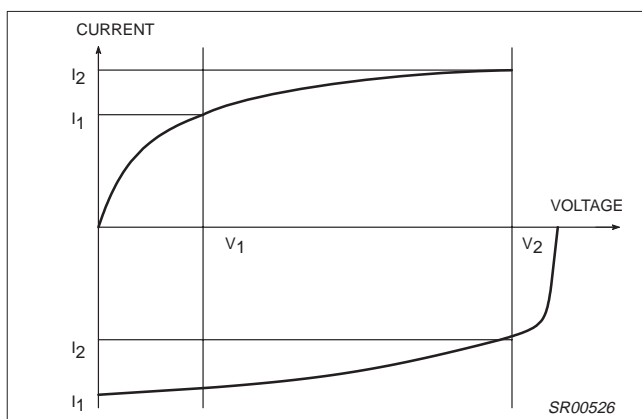

Figure 3. Relative Output Current Variation
- The relative output current variation is defined thus: $\frac{\Delta I_{OUT}}{I_{OUT}} = 2 \cdot \frac{(I_2 - I_1)}{(I_2 + I_1)}$; with $V_1 = 0.3V$, $V_2 = V_{CCCP} - 0.3V$ (see Figure 3).